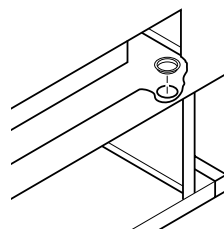

Figure 12 - Installing Bushing
4. Install one plastic bushing provided in blower kit into the 1 1/2" hole in the left rear of firebox floor. Access hole through the rectangular opening in the rear panel (see Figure 12).
11. Attach the terminal ends of the white and black power cord wires to the terminals on the blower motor (see Figure 12). Push firmly.
- Install one plastic bushing provided in blower kit into the 1 1/2" hole in the left rear of firebox floor. Access hole through the rectangular opening in the rear panel (see Figure 12, page 10).